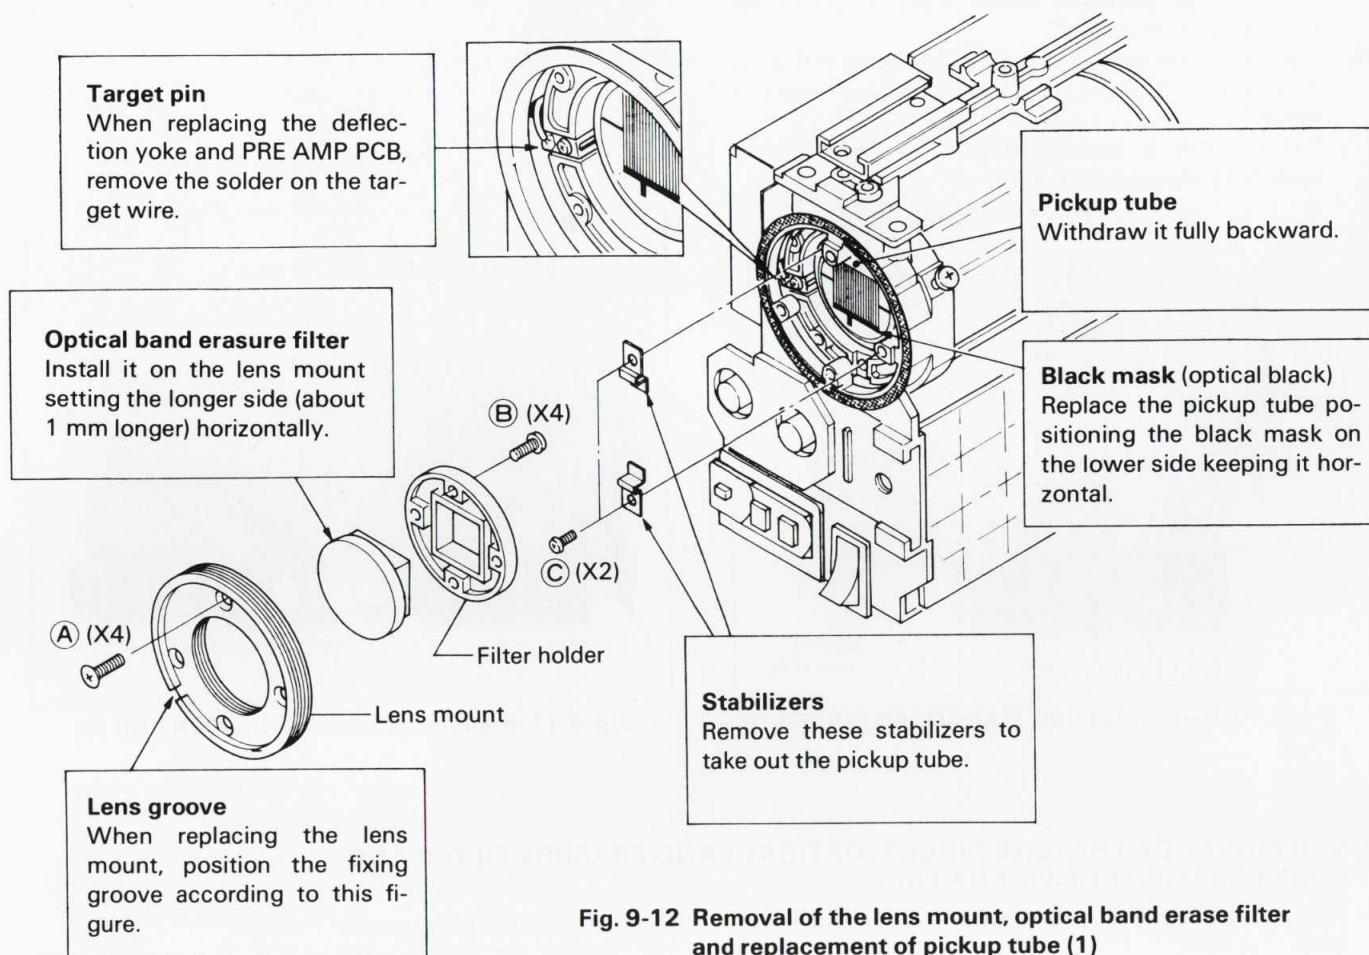

Fig. 9-12 Removal of the lens mount, optical band erase filter and replacement of pickup tube (1)
- (2) When removing **PRE AMP PCB**, remove all four screws (B) and (C). Perform removal of **PRE AMP PCB** only after first removing **PROCESSING PCB**. Also remove the lens mount (ref. Fig. 9-12) and target wire soldered to the target pin.
- (1) Remove the front cover as instructed in **item 9-2**.
- (2) The lens mount and optical band erase filter can be removed together by removing four screws **(A)** shown in **Fig. 9-12**.
- (1) Remove the front cover, the lens mount and optical erase filter as instructed **item 1** of **9-5**.
- (2) Remove the two stabilizers shown in **fig. 9-12** after removing the two screws **(C)**.
- (1) Ensure that the tube is free from dust and fingerprints, gently insert the pickup tube into the deflection yoke assembly. Withdraw the tube fully backward.
- (2) Install the two stabilizers shown in **Fig. 9-12**.
- (3) As shown in **Fig. 9-12**, turn the pickup tube so as to set the black mask line on the lower side, keeping it horizontal.
- (1) Remove the pickup tube following instructions in **item 9-5**.
- (2) Remove the solder on the target wire attached to the target pin. (Refer to **Fig. 9-12**)
Replace, positioning the target pin attached to the new deflection yoke assembly as shown in **Fig. 9-12**. Next install the pickup tube.